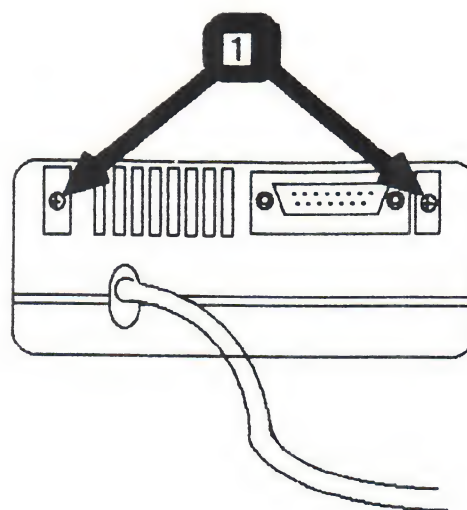

FIGURE 2
4. Orient the UniDisk so that the back is facing you and remove the two Phillips screws (Figure 2, #1).
7. Position the UniDisk so that the back is facing you and replace the two Phillips screws (Figure 2, #1).